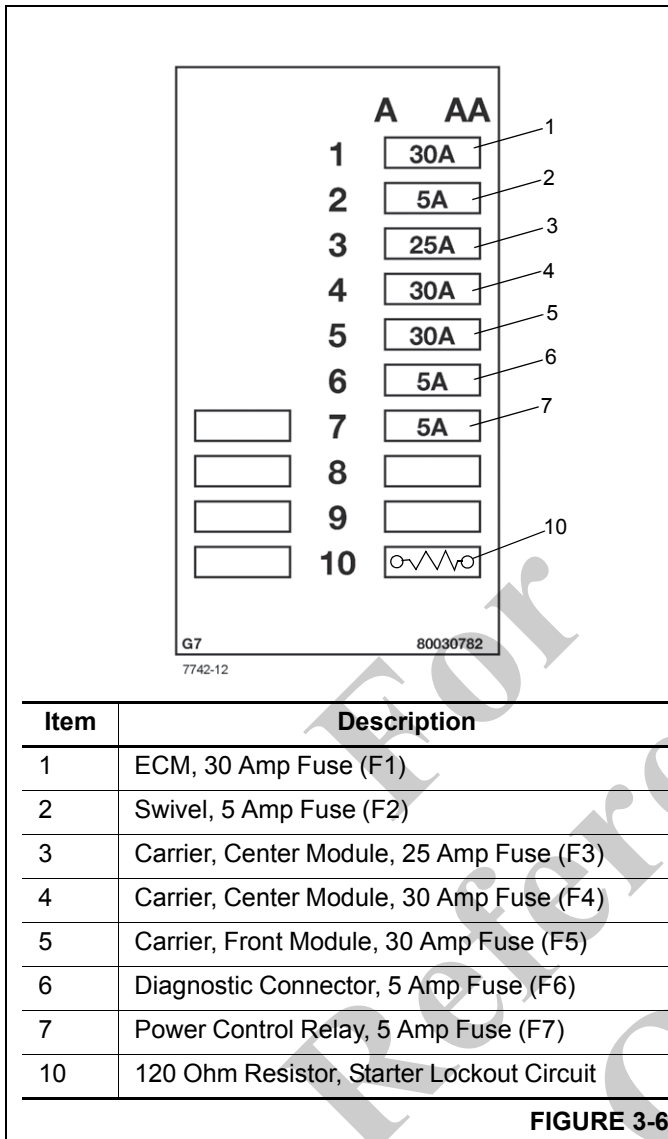

FIGURE 3-6
10	Fuse and Relay Panel (see Figure 3-6)
5. Turn the ignition switch to RUN (1). Check the voltmeter. If it doesn't move (but the headlights, tail lights, marker lights, dome light, work light, or gauge lights and panel lights will come on), suspect the ignition switch and the power circuit to it starting at the ignition switch fuse. Repair or replace circuit, switch, or fuse as needed.
- a. If you hear no noise when you try to turn the starter, troubleshoot the start circuit (ignition switch, electric shifter, and wiring from ignition switch to the module located in the steering column, on the carrier, troubleshoot the resistor located in the fuse box in fuse #10 location, see Figure 3-6. Also troubleshoot carrier center module located above the battery box for starter lockout signal, pin B16 must have 12v to allow starter to engage and pin B13 must have 12v when key is in start position to send a signal to start relay (K303). Make repairs as needed.